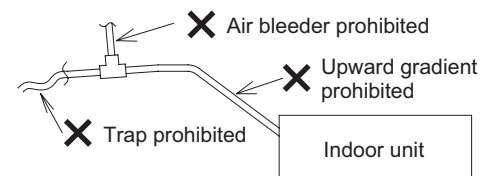

Fig. 2-35
- (2) Limitations of Drain Pipe Connection
- Do not install the drain pipe with an upward gradient from the drain port connection. This will cause the drain water to flow backward and leak when the unit is not operating. (Fig. 2-35)
- Do not install an air bleeder as this may cause water to spray from the drain pipe outlet. (Fig. 2-35)
- Do not provide U-trap or bell-shaped trap in the middle of the drain pipe. Doing so will cause abnormal sound. (Fig. 2-35)